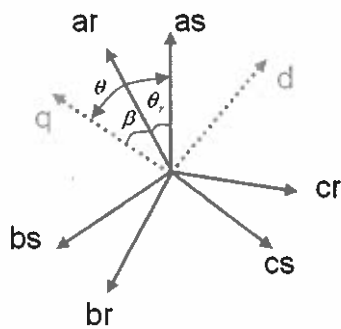

Fig. 2
- (3) Suppose the rotor speed measured on the shaft is 240 rpm. The number of **pole pairs** of this induction machine is 4. Please calculate the value of rotor angular velocity  $\omega_r$ , to be used in this machine model.
- (4) Observed from Fig. 2 that when  $\theta = 90$  degrees, the d-axis is aligned with stator phase-a axis and the q-axis is leading phase-a axis by 90 degrees. Let's fix this qd-frame at this position (let it become stationary). This makes the d-axis now become the alpha-axis and the q-axis is now the beta-axis. Please give the machine stator and rotor voltage equations expressed in this alfa, beta-reference frame. (Please leave the zero component equations for simplicity.)